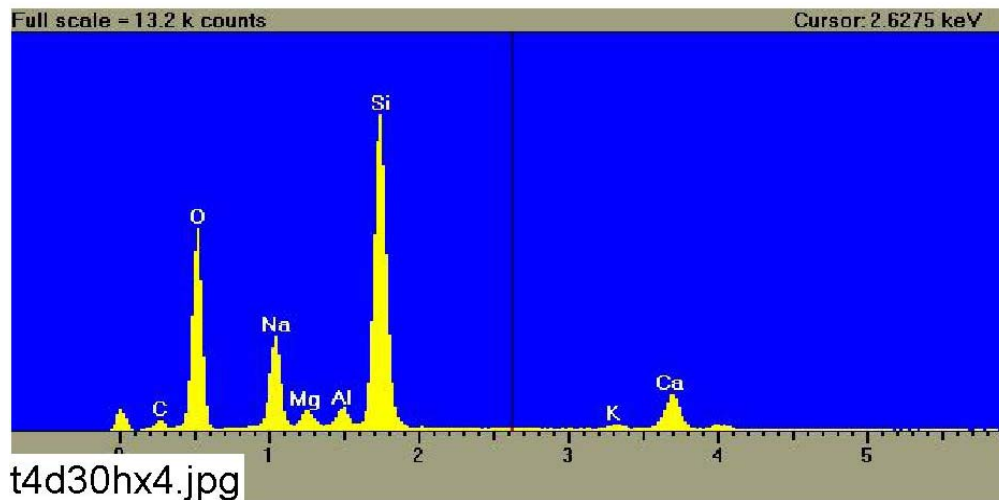

Figure C5-4: EDS counting spectrum for the spot of coating substance on fiberglass shown in Figure C5-3. (t4d30hx4.jpg)
- Figure C5-4: EDS counting spectrum for the spot of coating substance on fiberglass shown in Figure C5-3. (t4d30hx4.jpg) C5-6